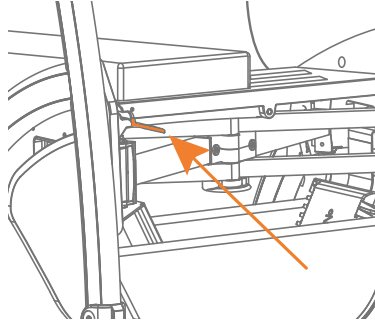
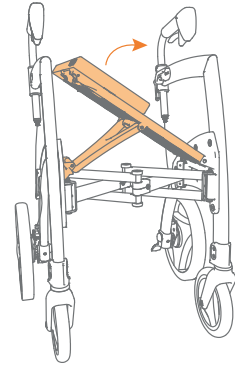

Figure 18: Push the red handle while lifting the seat.
Figure 19: Lift the seat partially.
- d. Push the red release handle under the seat (**Figure 18**) and lift the seat partially (**Figure 19**).